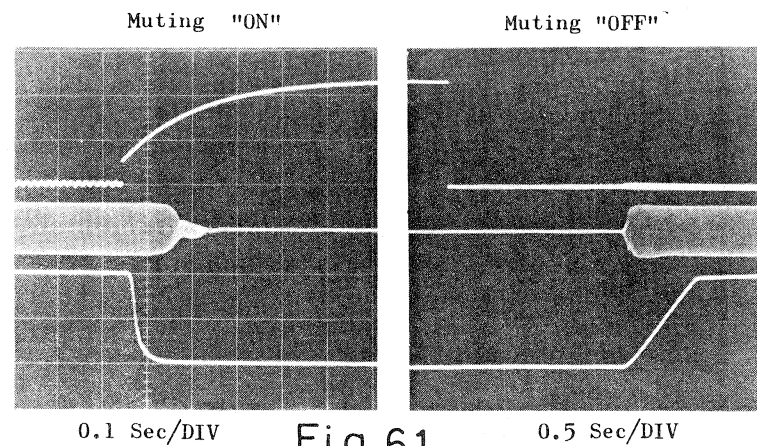

Fig.61
The signal in the exciter circuit transfers to the base of Q413, grounding the base of Q411 by turning Q413 to ON and then turning Q410 to OFF. It also mutes the exciter, when microphone is used, by turning Q413 to ON. Fig. 61 shows the timing chart for mute signal (upper curve), exciter voltage (center curve) and sound output (lower curve). The points of measurement are ① of P403 for mute signal, emitter of Q401 for exciter voltage and SP. OUT for sound output.
When muting circuit is turned to ON (left-hand-side in Fig. 61), the voltage of mute signal rises up, muting the exciter first and then (shortly later) the sound output. This delay of approximately 0.1 second is due to C441 and C442 for the countermeasure against unfavorable sound.
When muting circuit is turned to OFF. (i.e. when muting is released) as shown on the right-hand-side of Fig. 61, the sound and exciter rise up approximately 2 seconds after the voltage of mute signal drops to "L." This delay is for eliminating the sound irregularity at the time of rise of flywheel.